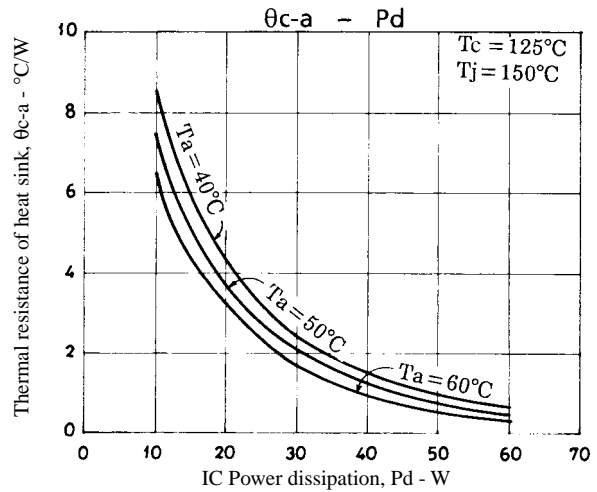

Figure 3. STK4102II  $\theta_{c-a} - P_d$
Figure 3 shows the relation between  $P_d$  and  $\theta_{c-a}$  given from (1) and (3) with  $T_a$  as a parameter.
The thermal resistance of a heat sink is obtained from Figure 3.